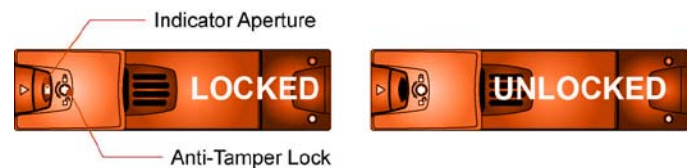

Fig. 21 - Activating the Anti-tamper Lock
1. Carefully insert the Torx driver provided into the anti-tamper lock in the handle (see Fig. 21).